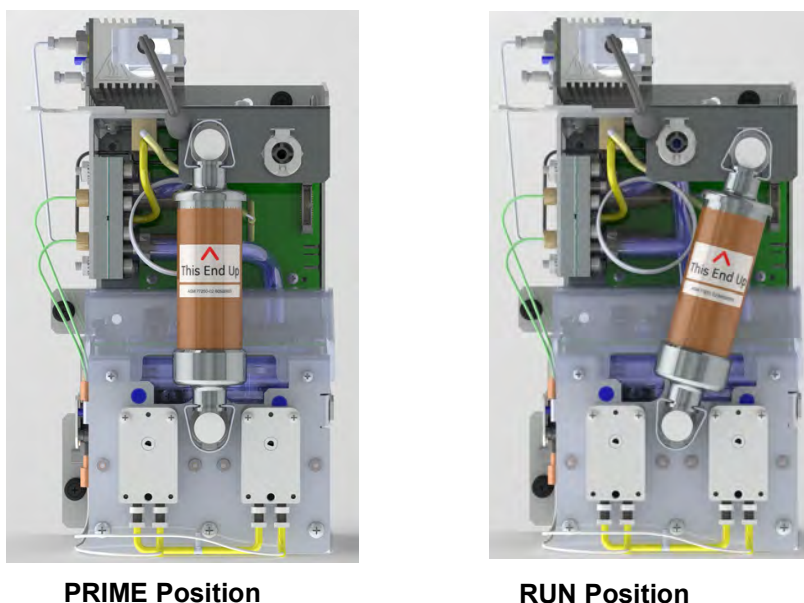

Figure 52: Resin Cartridge — “Prime” and “Run” Positions
9. After verifying that the water level has stabilized to **just below** the top of the reservoir, remove the top valve of the resin cartridge from the prime position. While holding the DI cartridge, simultaneously press the latches on the *Prime* port and the *DI Pump Outlet* port to eject the cartridge. See Figure 52 on page 189.